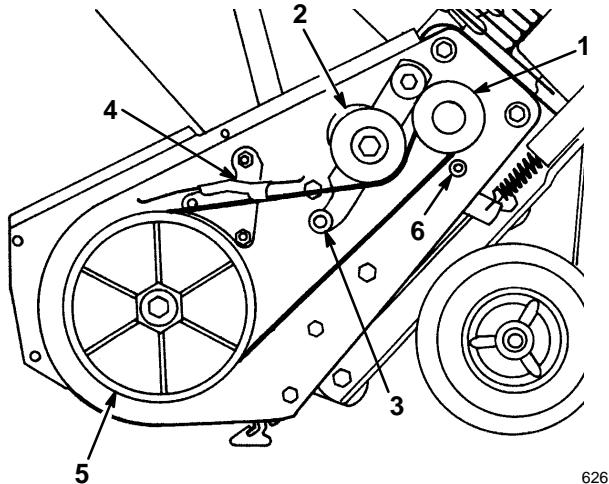

Figure 18
- Push down on the idler pulley and remove the drive belt from the rotor pulley, the brake arm assembly, and the engine pulley (Fig. 18).
- Loop the new drive belt around the engine pulley, under the idler pulley, over the roller, through the brake assembly, and around the rotor pulley (Fig. 18).
IMPORTANT: The drive belt must be on top of the roller as shown in Figure 18.